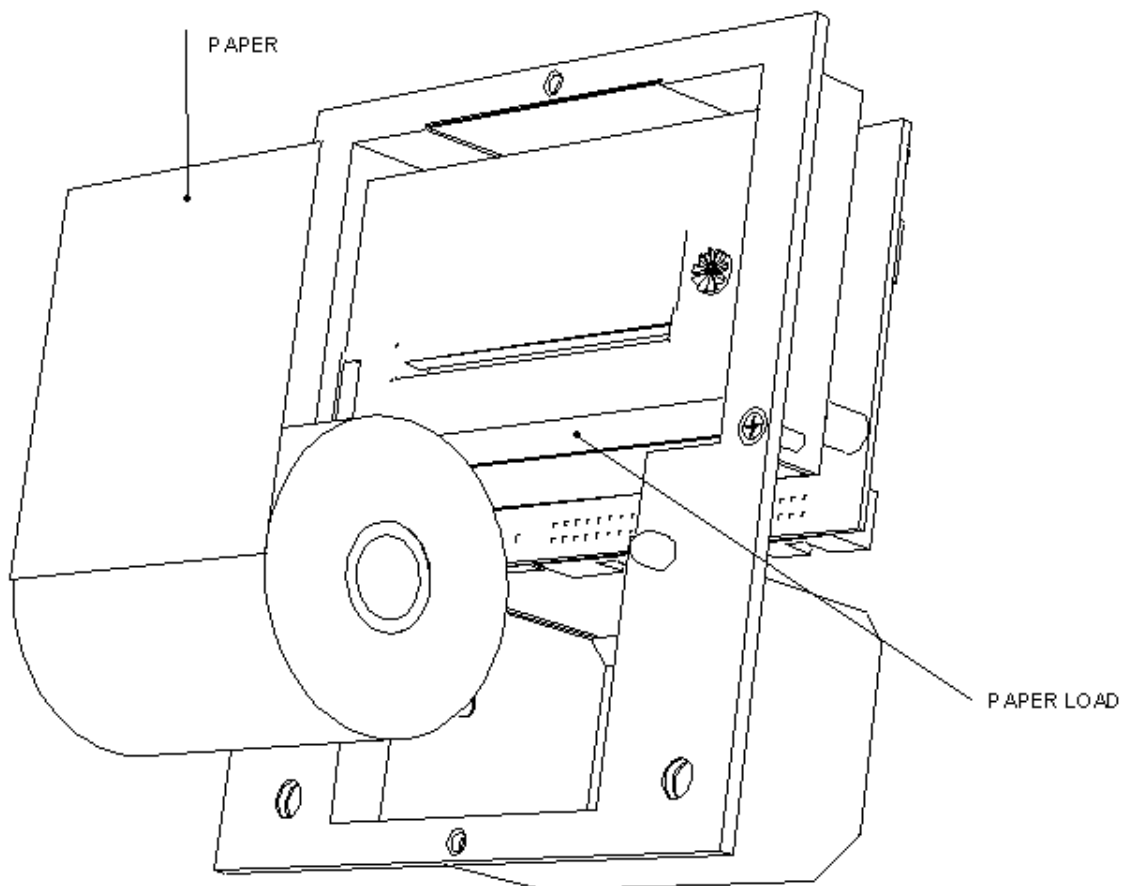

Fig. 3.1 - Cut paper to load
- 1.- Pull out the frontal cover and place the paper roll in its receptacle in the position shown in **fig. 3.1**.
- 2.- Insert the end of the paper roll in the slit of the printer marked as **PAPER LOAD** in **fig. 3.1**.
- 4.- Make sure that the paper roll remains in its receptacle in the right position shown in **fig. 3.1**, and put the frontal cover back in its place.